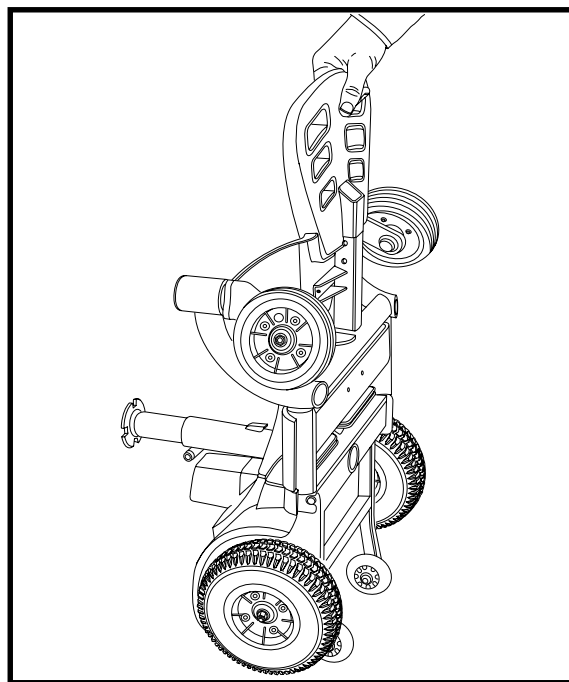

Figure 15. Lift Front Section
3. Grasp the foot platform and lift the front section to a vertical position on the rear section. See figure 15.